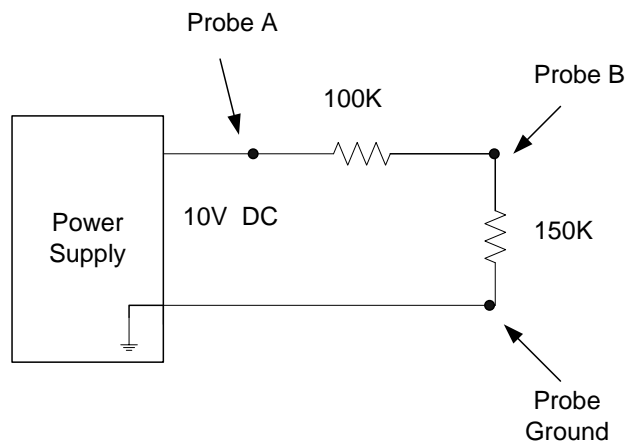

Figure 5 The DC voltage divider.
- 2.1 Build the simple circuit shown in Figure 5 and apply 10 V DC from the power supply to the circuit, and then measure the amplitude of the signals at A and B with respect to ground.